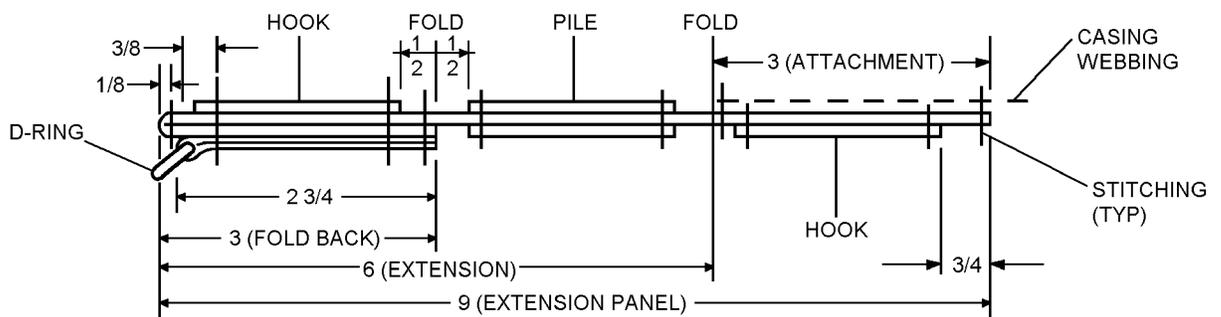

Figure 17-12. Fabrication of Casing Webbing Belt Extension Panel
1. Sew 3/4-inch hem along each 12-inch length of 5 1/2 x 12-inch nylon duck cloth to form 4 x 12-inch panel (figure 17-12).
2. Place panel with 3/4-inch hem down on smooth surface. Measure and mark four equal 3-inch segments (see figure 17-12).
11. Position the assembled extension panel with the attachment end (figure 17-12) under the casing webbing (figure 17-13) with D-rings of extension panel facing down as shown. Stitch sides and end of panel to casing webbing. Stitch end of casing webbing and extension panel together.